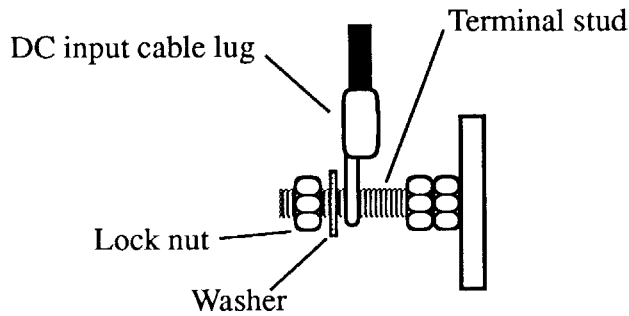

Figure 2.6 -DC Input Cable Lug Orientation
- C. Attach the lugs of the DC input cables to the DC input terminal studs and tighten nuts provided. See Figure 2.6 for proper DC input lug orientation.